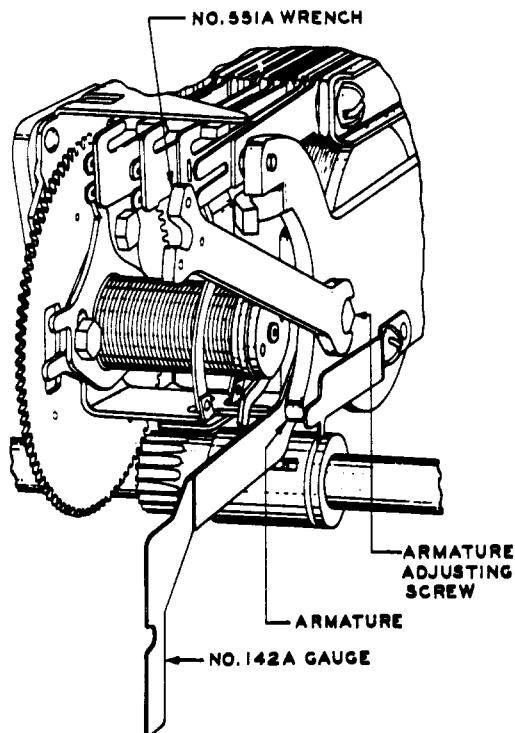

Fig. 21 - Method of Adjusting Armature Travel
(1) To adjust the armature travel, turn the armature adjusting nut with the No. 551A wrench until the 0.053-inch end of the No. 142A gauge can be inserted loosely between the armature stop plate and pole piece as shown in Fig. 21 and the 0.060-inch end of the gauge, if it can be inserted without forcing, does so with a snug fit.